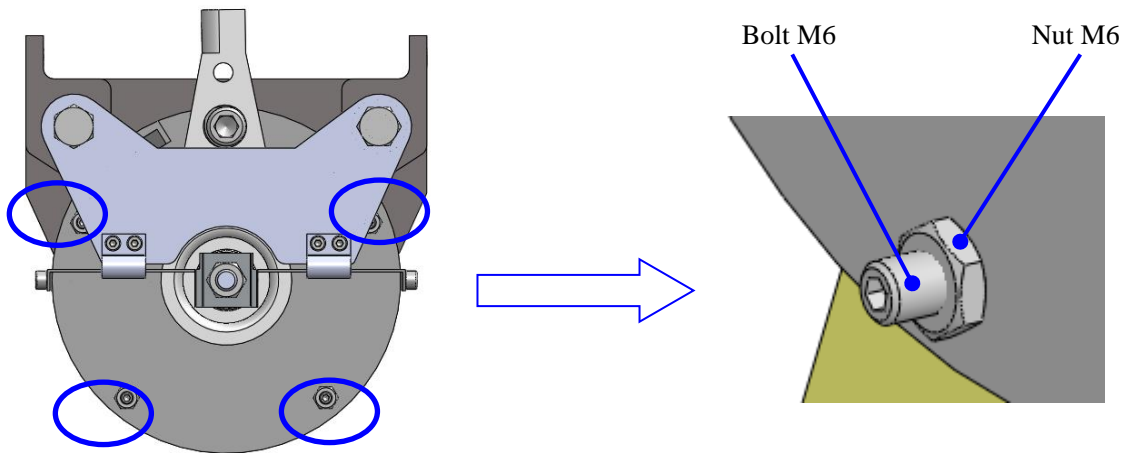

Figure 6: Brake Noise Adjustment
1. Loosen the nut M6 using the open end wrench 10mm. See figure 6.
3. Use the same method to adjust the other 3 bolts shown in Figure 6.